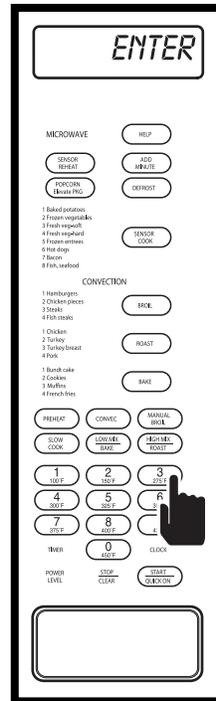

Figure 3-46. Press Number 3 Key
2. Press the number 3 key, “**ENTER - START-TIME**” will flash on display (See Figure 3-46).